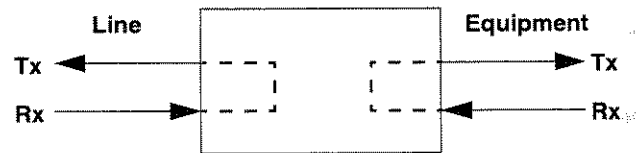

Figure 1-2 Line Loop Back Mode Paths
- **Dual Monitor (Mon) Mode** — The T-BERD 950 measures signal parameters, monitors traffic from a resistor isolated DS1 monitor point, or bridges onto the line. One (1) or two (2) receivers may be used. If two (2) receivers are used the Line and Equipment receivers are monitored simultaneously.
- **Line Loop Back (LLB) Mode** — Places the T1 path into Full Loop Back configuration, which loops the incoming data back out the transmitter while enabling the receiver to monitor the incoming signal (BPV errors are not corrected). The line loop back mode signal paths are illustrated in Figure 1-2.